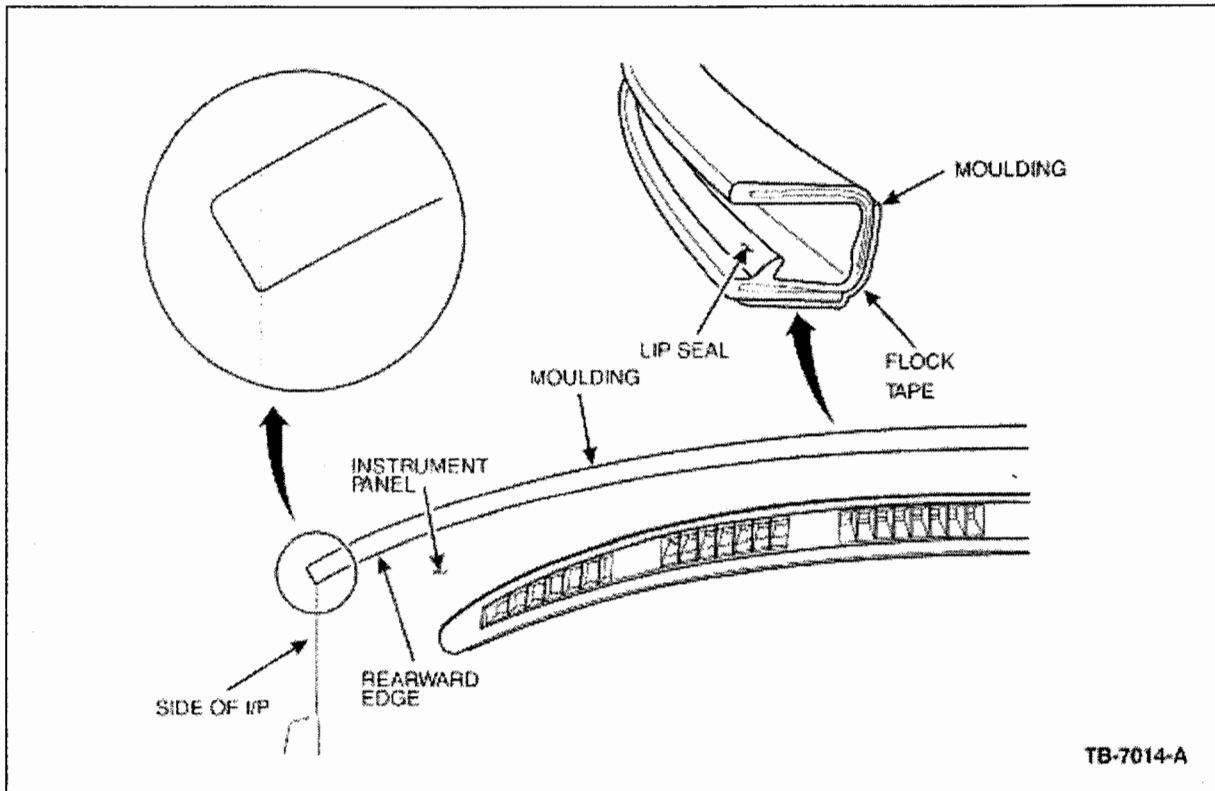

Figure 13 - Article 03-4-6
23. Inspect the molding before installing it onto the I/P. Make sure the flock tape is on the lip seal side and wraps around the forward edge as shown (Figure 13). If the flock tape is not installed in this fashion, reposition as necessary.
- Beginning at the driver side of the I/P, position the rearward edge of molding so it is flush with the side of the I/P. Installed correctly, the forward edge of the molding will hang over the I/P about 10 - 13 mm (3/8 - 1/2 in.) (Figure 13)